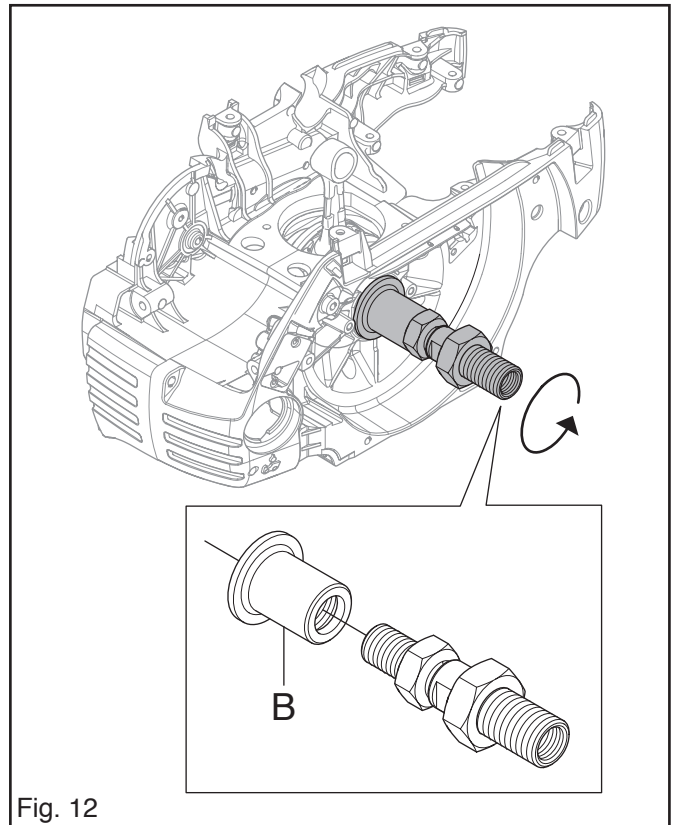

Fig. 12
5. Use tool 502 50 30-20. Turn around the sleeve (B) and pull on the flywheel side's crankcase half. Pull until the gasket is clamped between the crankcase halves. See fig. 12.